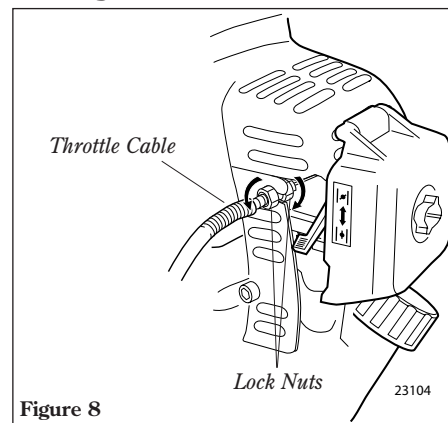

Figure 8
1. Loosen the throttle cable lock nuts and adjust in or out to achieve proper free play of 3/16-1/4 inch (4-6 mm). See Figure 8.